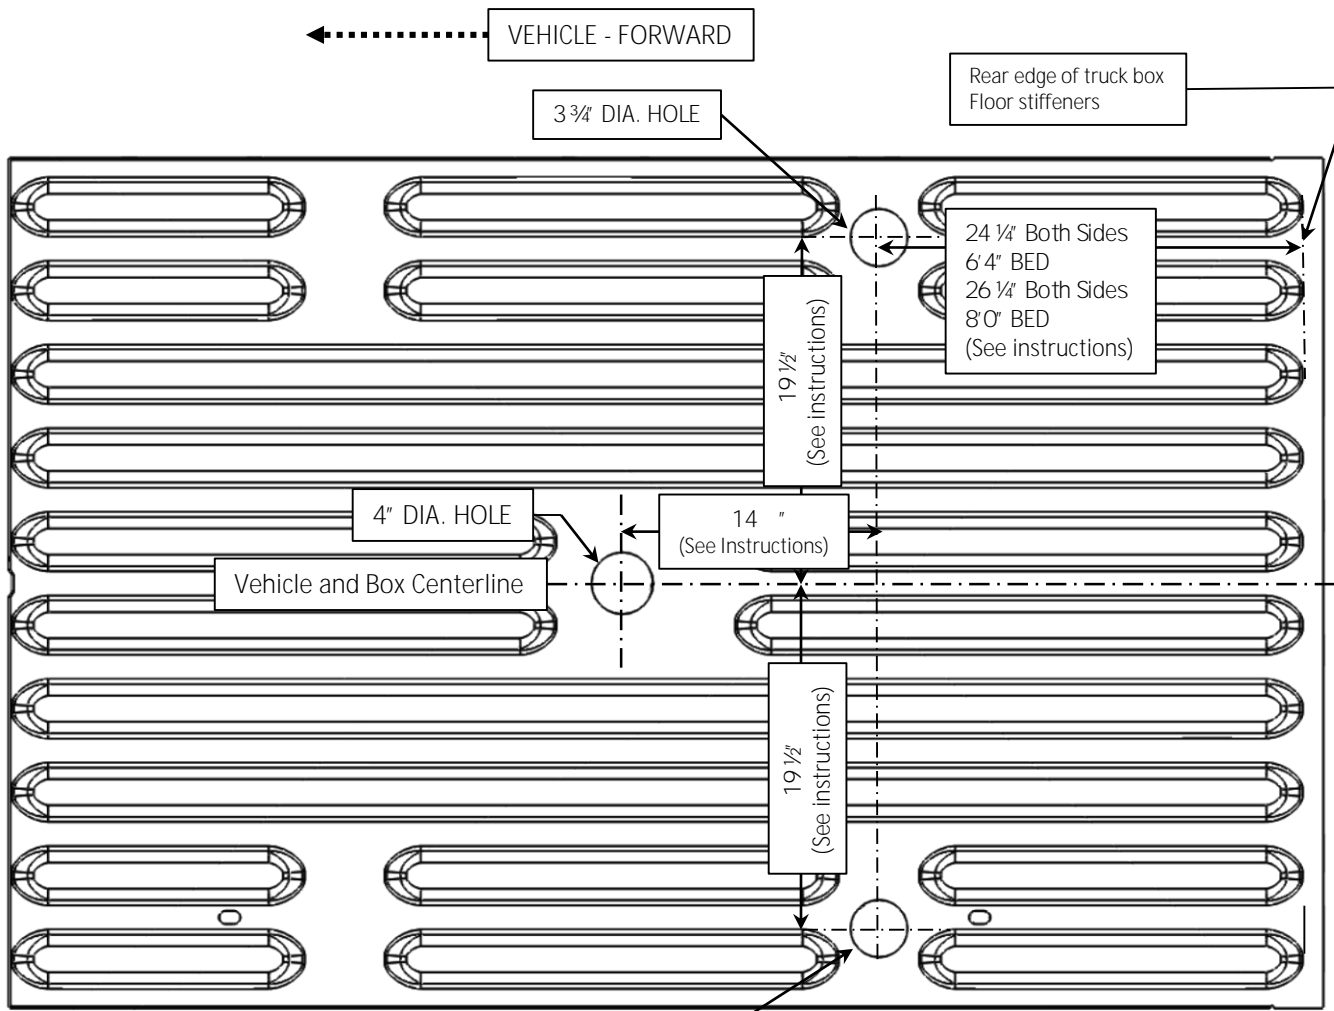

Figure 4
- 10) From inside the box, mark the centerline of the box. Use chalk or some other temporary marking method. For 6'4" beds, measure and mark a spot 24 1/4" (616mm) forward of the rearmost edge of the truck box floor stiffeners. For 8'0" truck beds, measure 26 1/4" (667mm) forward of the rearmost edge of the truck box floor stiffeners. Strike an additional line 90 degrees to the spot marked. (See Fig. 4)
- 11) Measure outward in both directions, along the line you marked in the previous step, 19 1/2" (495mm). You should have two targets marked (See Fig. 4)
**CHECK YOUR WORK!** From the top of the bed, verify that the 1/4" holes match the dimensions and appearance of Fig. 4. **THIS IS YOUR LAST CHANCE** to make adjustments before drilling the large 3 3/4" & 4" holes in your truck bed.